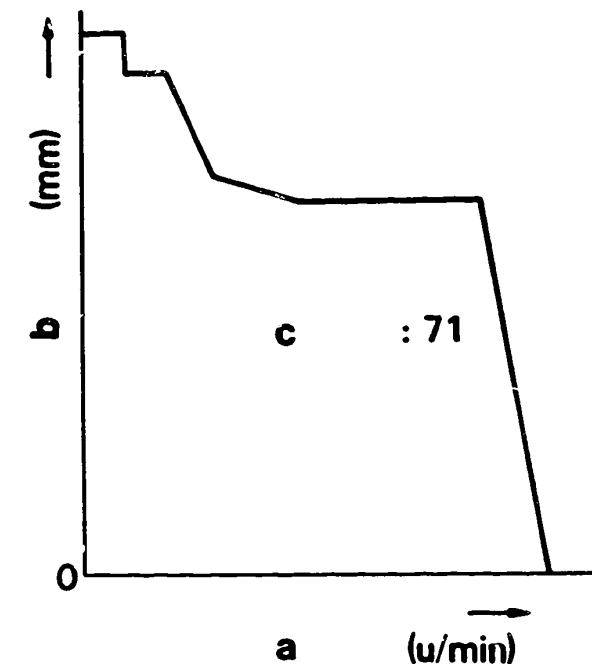

Fig. 1
2. It is not only possible to regulate the delivery map required for full-load operation of the engine, but also to adjust the excess fuel for starting in accordance with the engine starting requirements. This is done by simply replacing the torque-control edge cam with a more suitable edge cam. Figs. 1 and 2 illustrate for example how the speed behaviour of the governor changes when using a different edge cam.